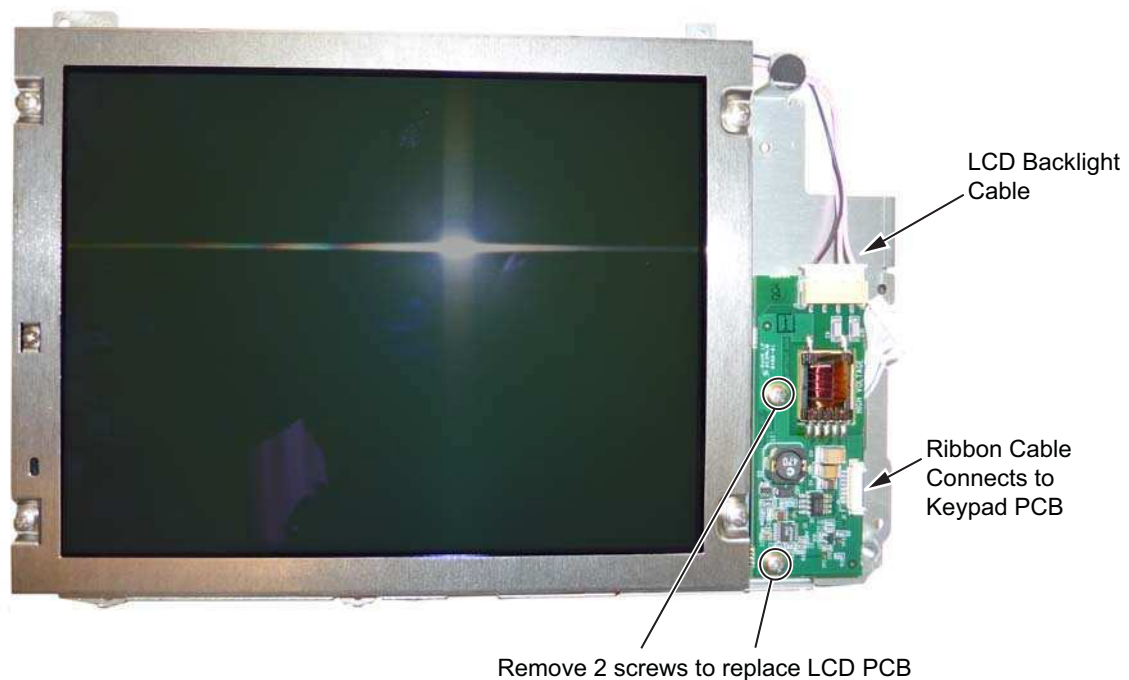

Figure 7-11. Replacing the LCD PCB
5. Use a Phillips screw driver to remove the two screws securing the LCD backlight PCB to the Main PCB assembly (Figure 7-11).